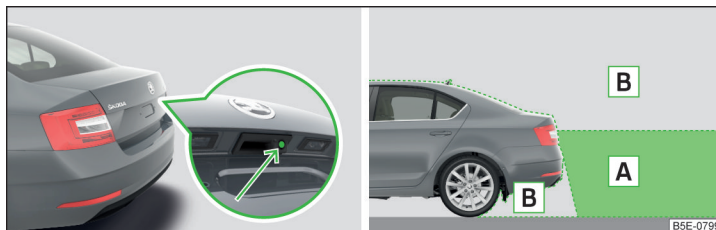

Fig. 262 Installation location of the camera / scanned area behind the vehicle
The camera for capturing the area behind the vehicle is in the grip of the boot lid » Fig. 262.
**Area behind the vehicle** » Fig. 262